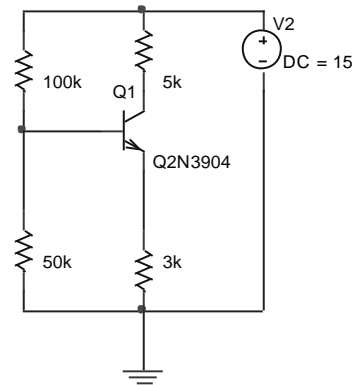

Fig 4.
2. (10 pts) Analyze the circuit shown in **Fig 4**. Determine voltages at each node and the currents through all branches. Assume $\beta=400$.